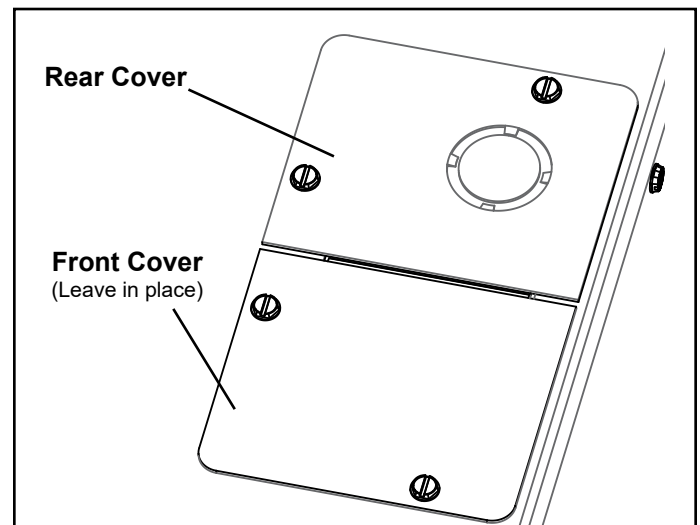

Figure 4.
1. Remove the two screws that secure the factory-supplied cover over the rear half of the internal junction box. Keep the front cover in place. See Figure 4.